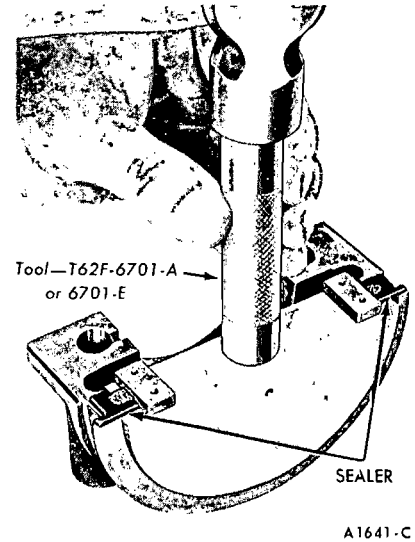

FIG. 51—Seal to Rear Bearing Cap Installation
19. Position the seal forming tool as shown in Fig. 51 and complete the seal installation. After installation, cut the ends of the seal flush.
bearing cap at the rear of the top mating surface (Fig. 51.) Do not apply sealer to the area forward of the oil slinger groove. Install the rear main bearing cap and torque the cap bolts to specifications.